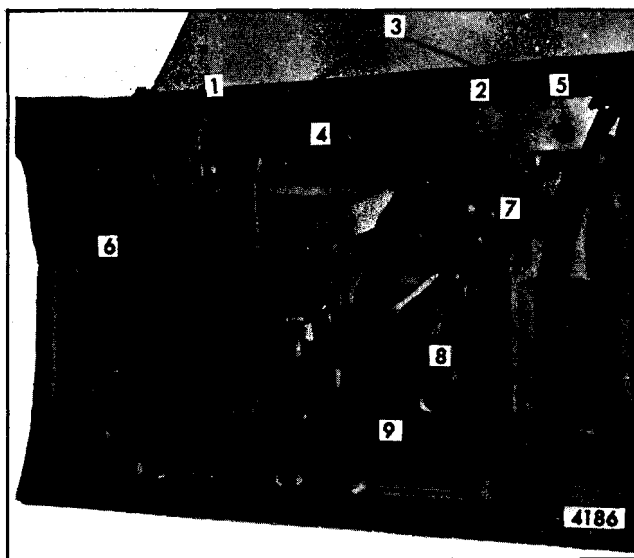
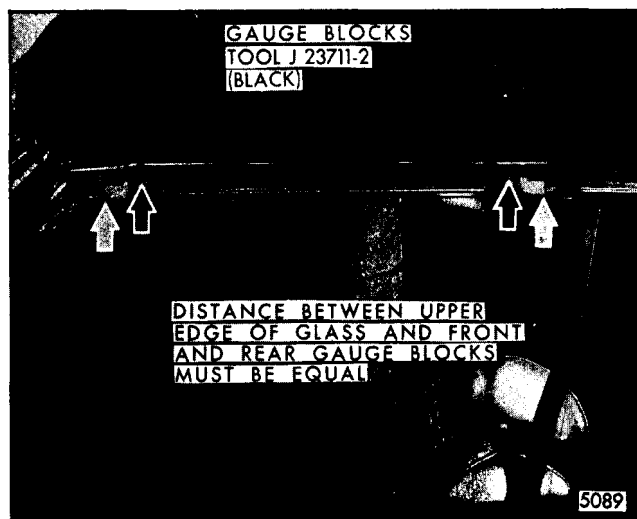

Fig. 6-85-Window Removal and Adjustment - "B and C-39-49" and "C-69" Styles
Figure 6-87 - Front Door Window Alignment (Rotated "Cocked" Glass in Body Opening Adjustment)
2. Remove front and rear window up-travel stops ("1" and "2", Figure 6-85).
3. Loosen front and rear window stabilizer strips ("3", Figure 6-85).
4. With window in three-quarter-down position, remove lower sash channel cam to glass attaching nuts ("4", Figure 6-85). Remove window by lifting straight up and aligning rollers with notches provided in the door inner panel. Remove rear end of window first, then front end.
1. In and out adjustment of glass is controlled by in and out adjustment available at the top of the front and rear guides ("6" and "7", Figure 6-85) and in and out position of the glass stabilizer strip assemblies ("3", Figure 6-85). Outboard adjustment of guides moves top of the glass inboard. Conversely, inboard adjustment moves top of the glass outboard.
2. Fore and aft adjustment of window assembly is controlled by position of rear guide. Upper attaching locations in the inner panel ("5", Figure 6-85) are slotted to permit fore and aft adjustment of guide. Because the roller assembly (bell-crank) which attaches to the glass at the front pivots, the front guide does not have to be adjusted during fore or aft window alignment.
3. Ease of window operation and window stability depends a great extent on adjustment of window stabilizer strip assemblies at beltline ("3", Figure 6-85). The stabilizing strips "3" should contact glass throughout full cycle of window. However, in some cases due to slight variations in glass contour, the strip may lose contact with glass halfway through the cycle. This is permissible provided it does not result in loose glass or restrict ease of window operation.
4. A window that is rotated (cocked) in window opening may be the result of an improperly adjusted inner panel cam ("8", Figure 6-85) or poorly adjusted up-travel stops ("1" or "2", Figure 6-85).
Correct a poorly adjusted inner panel cam by loosening cam attaching bolts ("8", Figure 6-85) and adjusting front end of cam up or down as required. Adjustment of cam repositions front edge of glass up or down in relation to rear edge of glass.
5. Up-travel of window is determined by adjustment of front and rear up-stop ("1" and "2", Figure 6-85). To adjust window up-travel, loosen front and rear up-stops and operate window to desired position to establish proper glass to side roof rail weatherstrip contact.
4. Working from inside body, with door in the closed position, loosen front and rear up-travel stops ("1" and "2", Figure 6-85) and stabilizer strips ("3", Figure 6-85).
5. Raise front door window assembly to approximately 1" from full-up position, as illustrated in Figure 6-87. If distance (space) between upper edge of glass and front and rear gauge blocks is equal (as shown in Figure 6-87), proceed with step number six (6). If distance (space) between upper edge of glass and both upper gauge blocks is not equal, loosen inner panel cam attaching bolts ("8", Figure 6-85) and adjust glass as necessary.
8. With glass in full-up position against upper gauge blocks, tighten up-travel stops ("1" and "2", Figure 6-85) and adjust stabilizer strips ("3", Figure 6-85) for proper tension against glass.